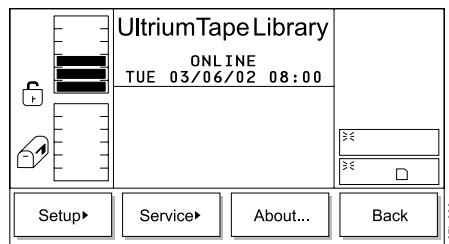

Figure 358. Main Menu (alternate screen)
1. From the Main Menu's initial screen, press the button below the **More** softkey. The Main Menu's alternate screen displays (see Figure 358).